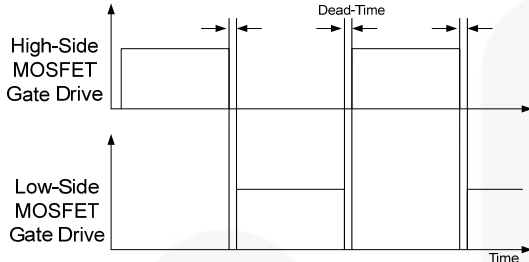

Figure 15. MOSFETs Gate Drive Signal
**1. Basic Operation.** FSFR-XS series is designed to drive high-side and low-side MOSFETs complementarily with 50% duty cycle. A fixed dead time of 350 ns is introduced between consecutive transitions, as shown in Figure 15.